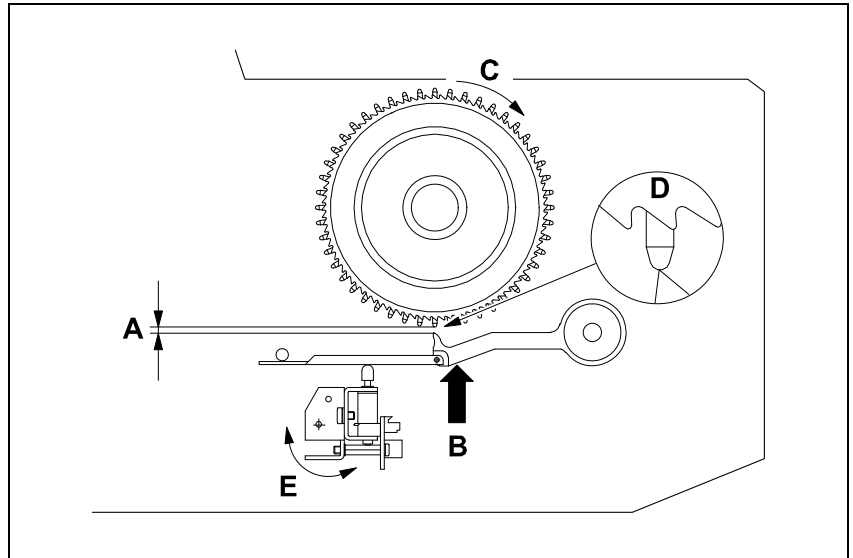

Figure 13-19. Feeder arm gap.
2. Adjust the gap between the feeder wheels and the feeder arm tips ('A' in Figure 13-19) by turning the solenoid bar.